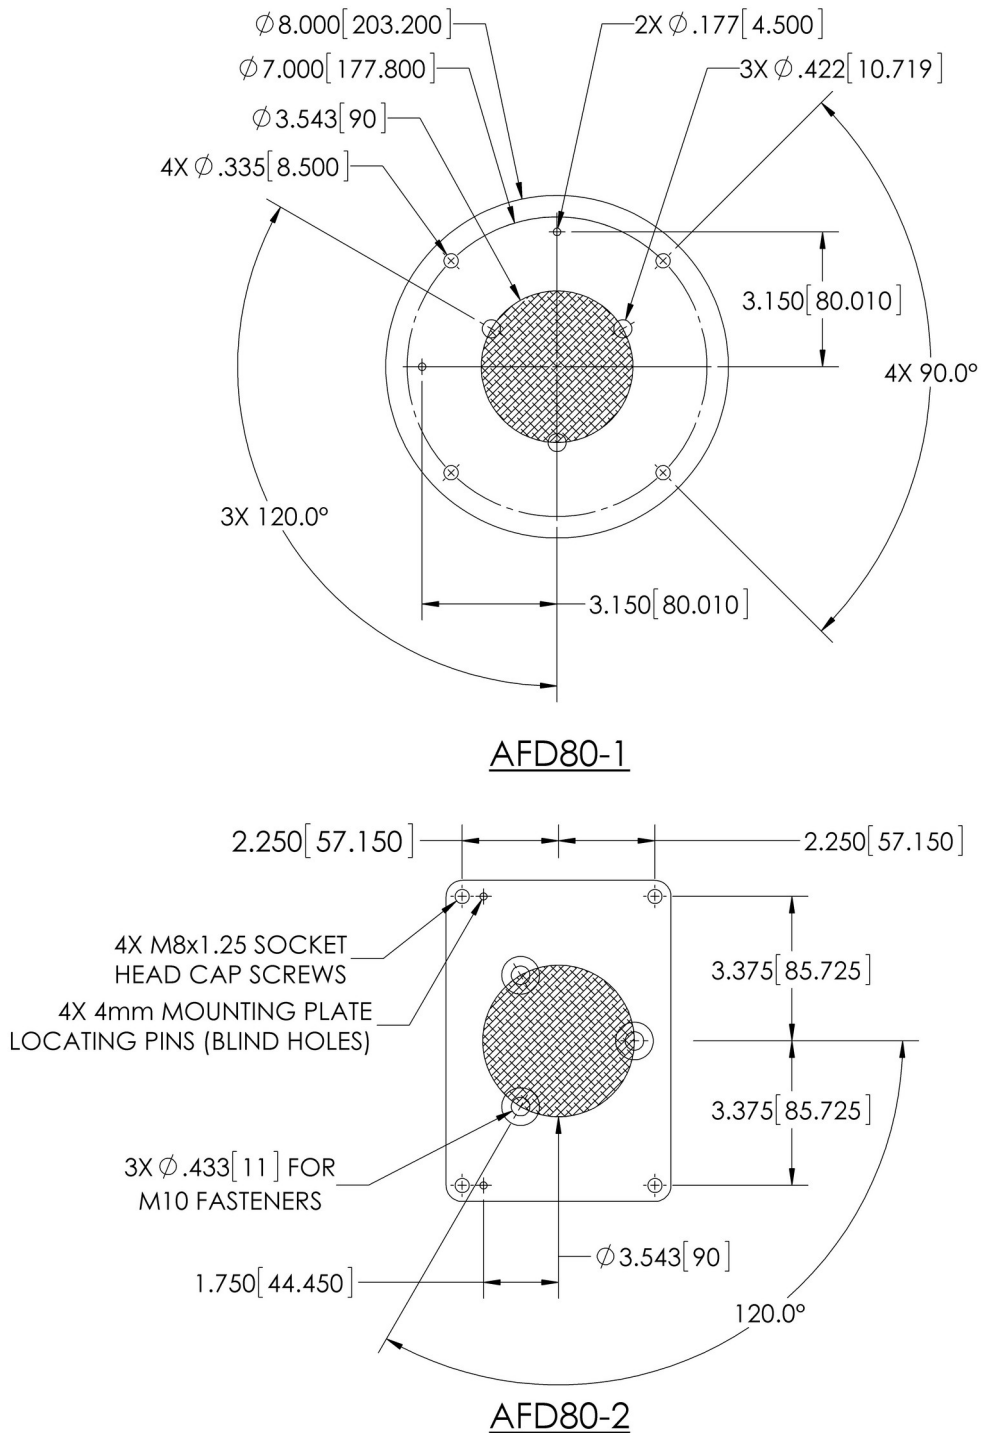

Figure 4: AFD80-1 and AFD80-2 Mounting Brackets
The *AFD80-1* and *AFD80-2* are supplied with a standard Mounting Bracket shown in Figure 4. A minimum of (3) three holes should be utilized to secure the Mounting Bracket to the robot mounting flange.
If the Mounting Bracket is supplied blank or additional holes are required, it must first be removed from the device before drilling. (4) Four M8x1.25 Socket Head Cap Screws are used to attach the Mounting Bracket to the *AFD82* force devices. Once the Mounting Bracket is removed, mounting holes may be placed anywhere within the crosshatched area shown in Figure 4. *PushCorp, Inc.* will supply engineering support to determine the mounting hole locations at no cost.